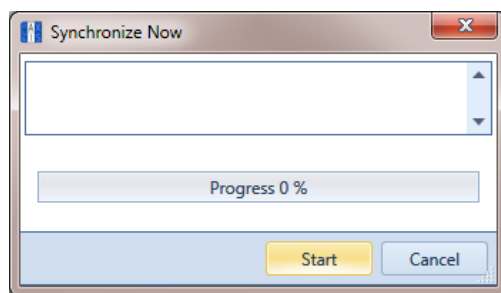

Figure 17-16. Synchronize Now
- 1 Synchronize data between the subscription and publication databases. Click **Tools** > **Synchronize Now** (Figure 17-16).